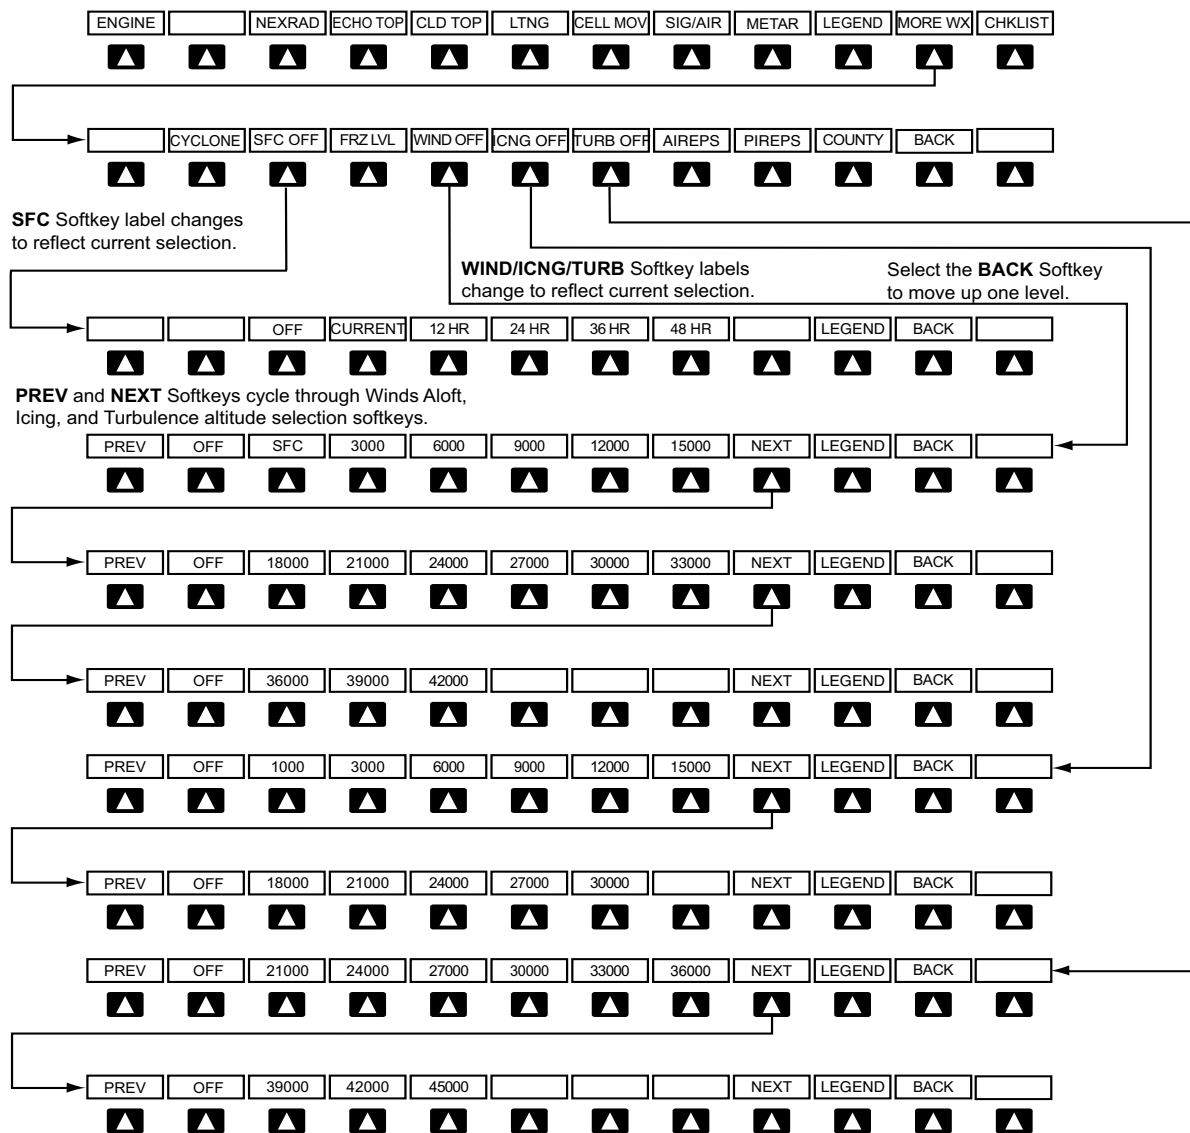

Figure 6-3 Weather Data Link (XM) Weather Product Softkeys
Softkeys control the display of weather information on most MFD pages and the PFD Inset Map. Figure 6-3 shows the weather product softkeys for the Weather Data Link (XM) Page. When a weather product is selected for display, the corresponding softkey label changes to gray to indicate the product is enabled.